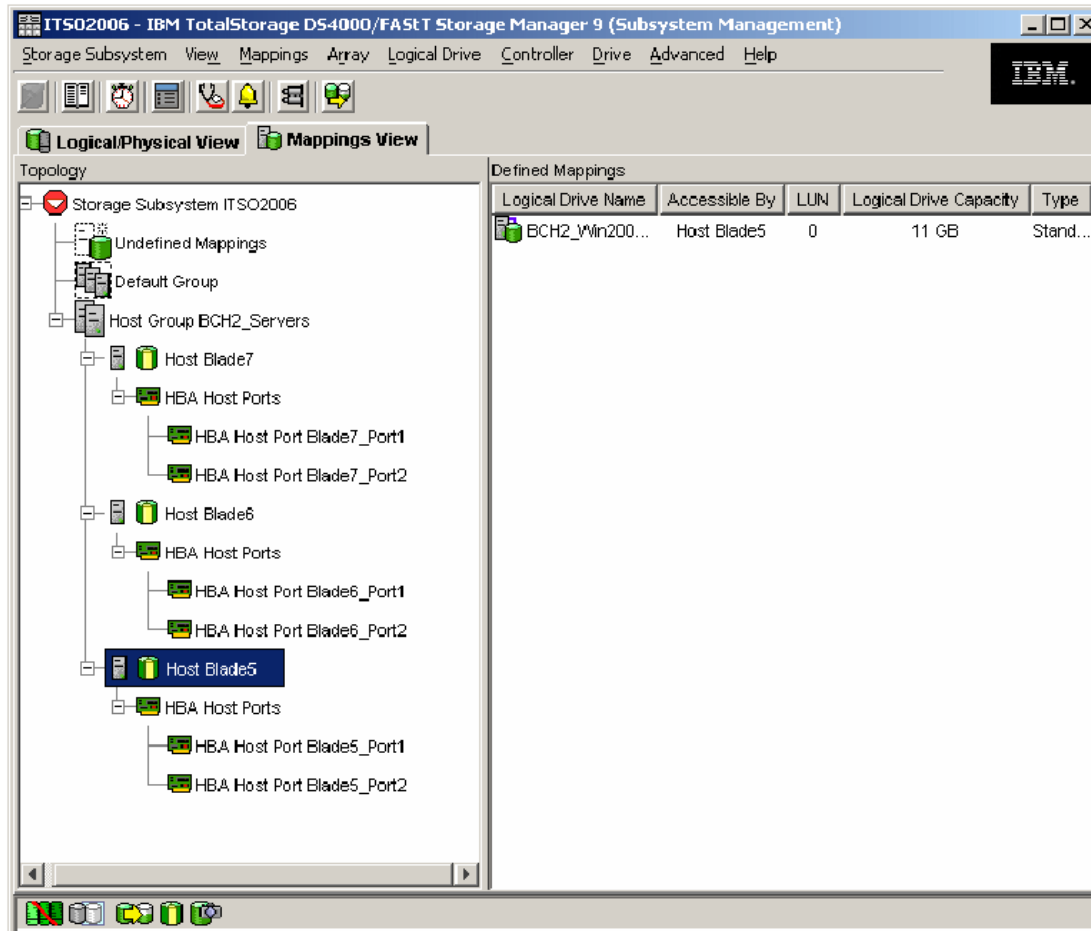

Figure 5-79 All host ports have been defined
- Repeat the steps for both FC ports for each server blade. See Figure 5-79 for an example.